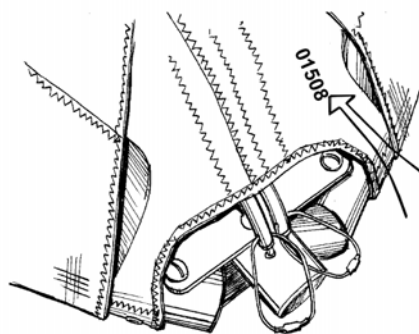

Fig. 10
2.2.5. By lifting up and back on the nose batten strings; push the nose battens fully back into the sail so that the tips rest on top of the keel tube (Fig. 10).